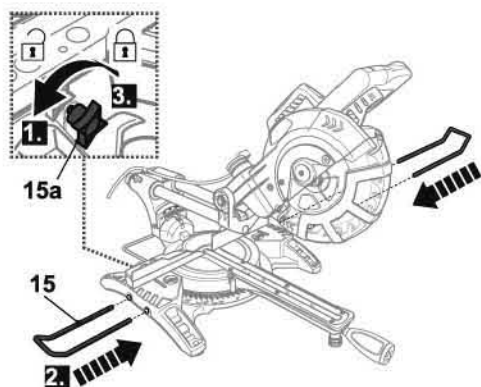

Fig. 6
1. Loosen the locking knobs (15a) on the base (9).
2. Insert the ends of the support (15) into the respective holes on both side of the base (9).
3. Secure them with the locking knobs (15a) (Fig. 6,7).